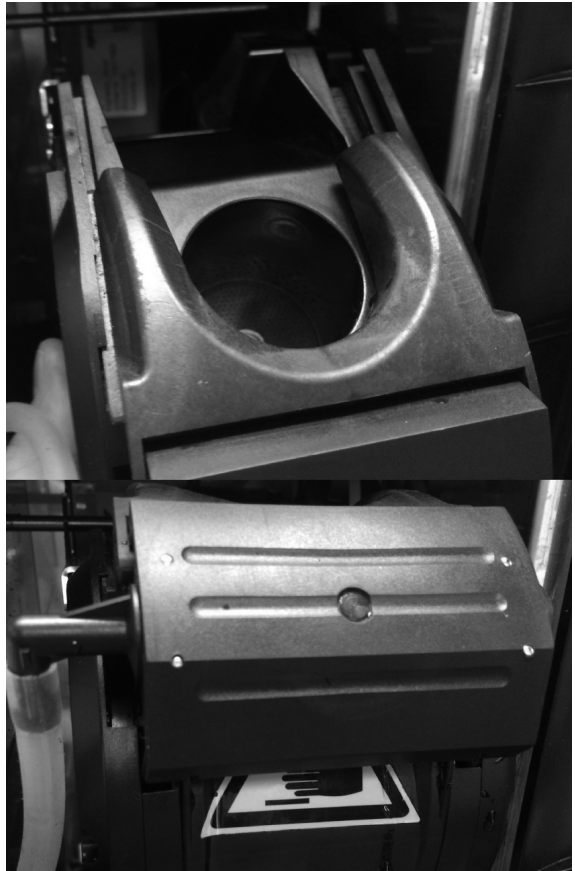

Figure 3
6. Rotate the top of group head toward rear of machine until it snaps into place as shown in Figure 3.